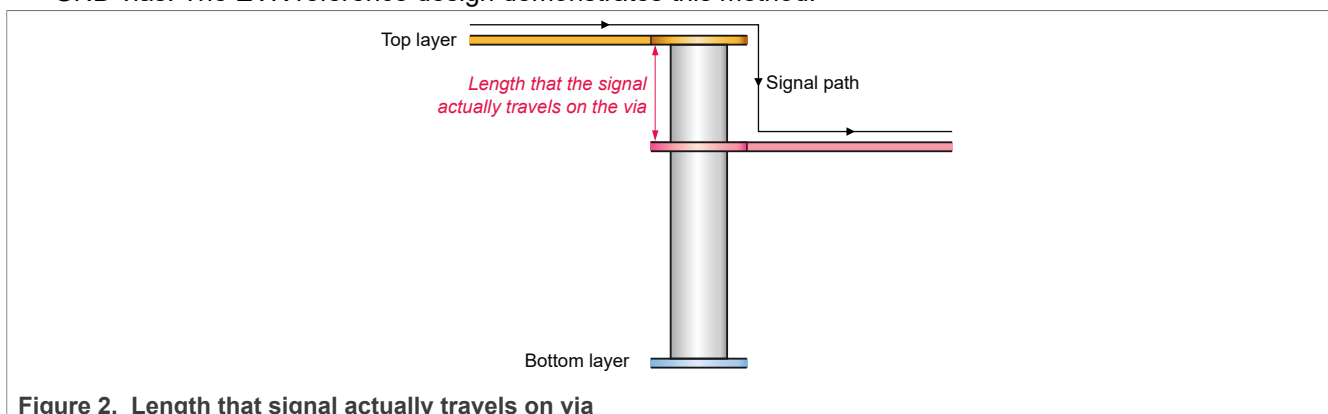

Figure 2. Length that signal actually travels on via
4. At a speed of 4000 MT/s, signal vias can be a significant source of crosstalk. If not properly designed, it can introduce crosstalk larger than that from the trace. To minimize via crosstalk, make sure that the total number of vias is no more than two on each point-to-point single-ended/differential trace. Place at least one ground stitching via within 50 mils of signal via when switching reference planes to provide a continuous return path and reduce crosstalk. If it is not possible to place enough ground stitching vias due to space limitations, try to make the length that the signal actually travels on the via as short as possible, as illustrated in Figure 2. The i.MX 8M Plus is optimized to use layer 1 and layer 3 for all single-ended traces. The differential traces, CLK, DQS0,1,2,3 are often routed on the bottom layer. These require the stitching of GND vias. The EVK reference design demonstrates this method.